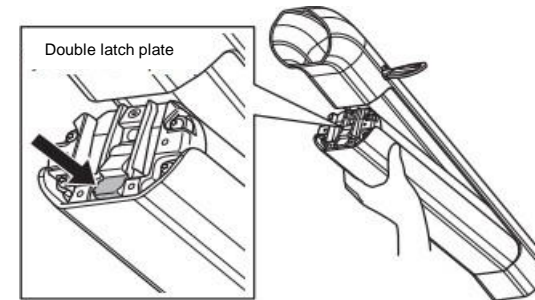

Figure 5.11
3. Remove the battery. Support the battery with your hand and push it while pressing the double-latch plate. See Figure 5.11.